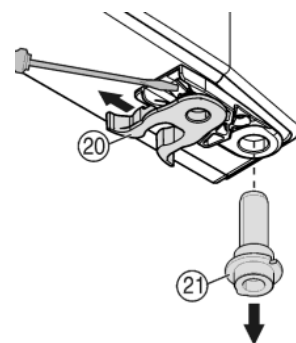

Fig. 8
- Transfer the spring clamp *Fig. 8 (20)*: Depress the latch nose and pull the spring clamp off over it.
- Pull the bearing pin *Fig. 8 (21)* out of the door bush and transfer it to the opposite side together with the washer. The latch nose must point to the inner side of the door, the notch to the outer side.
- Swing the door in at the bottom and insert the bearing pin *Fig. 8 (21)* into the turn hinge. If necessary, turn the bearing pin until it snaps into place.